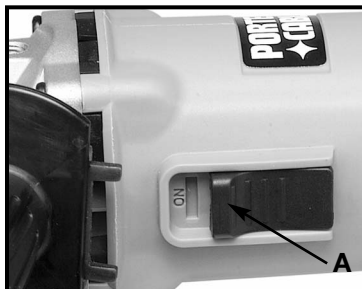

Fig. 11
3. Slide the switch button (A) Fig. 11 forward to turn the tool “ON”. When released, the switch button will return to the “OFF” position.
4. To lock the switch in the “ON” position, move the switch to the “ON” position and depress the front end of the switch button (A) Fig. 11. To release the switch lock, depress the rear end of the switch button.